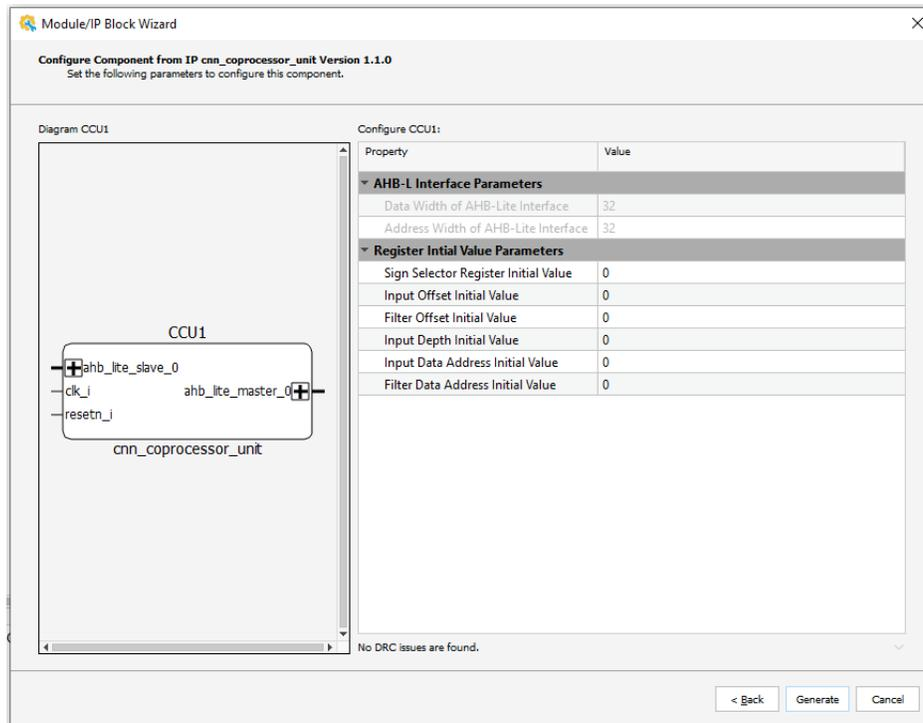

Figure 3.5. Configuring the Parameters
3. Configure the parameters as shown in Figure 3.5.